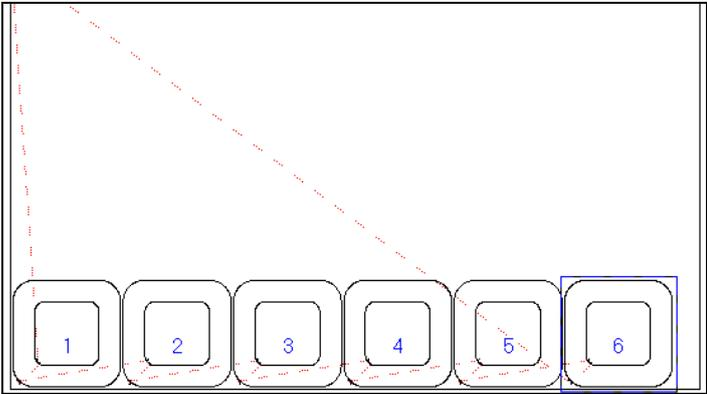

Figure 6-11-3
- X Array: starting from the position of the part, program will make nesting for a row of demanded parts along positive direction of X axis, until coming up against other parts or edge of plate. During nesting, the minimum spacing of part will be remained. Figure 6-11-3 is for reference: